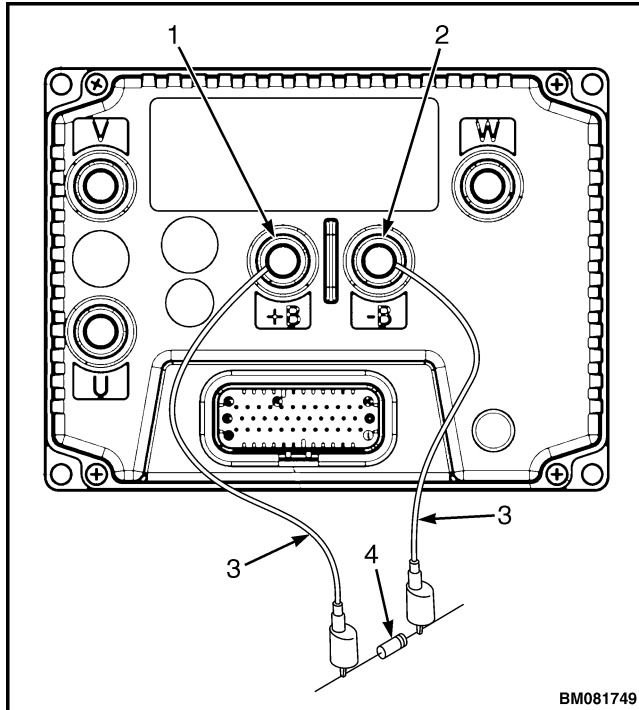

Figure 1. Discharging the Capacitors
5. Discharge the capacitors in the controllers by connecting a 200-ohm, 2-watt resistor across the lift controller's negative (B-) and positive (B+) terminals. Wait at least 20 seconds to be sure that the capacitors are fully discharged. See Figure 1.
Legend for Figure 1